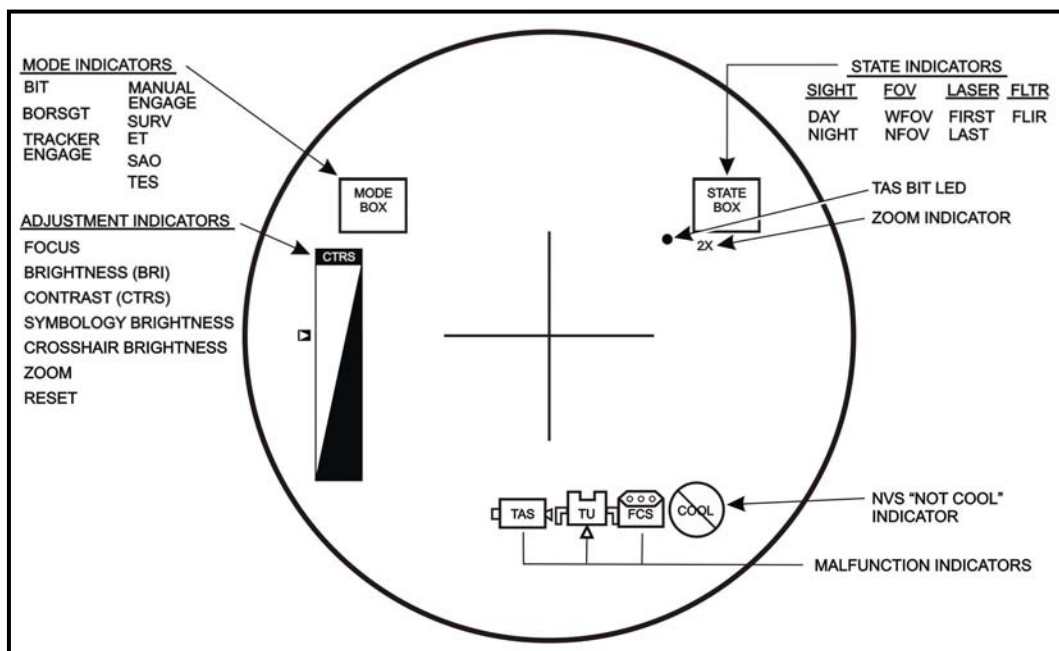

Figure 2-23. Status indicators.
a. **STATUS Indicators.** These indicators identify ITAS operational modes, condition, and malfunctions. All of the status indicators are shown in Figure 2-23. The gunner, depending on the status of the ITAS, will see one or more of the status indicators.